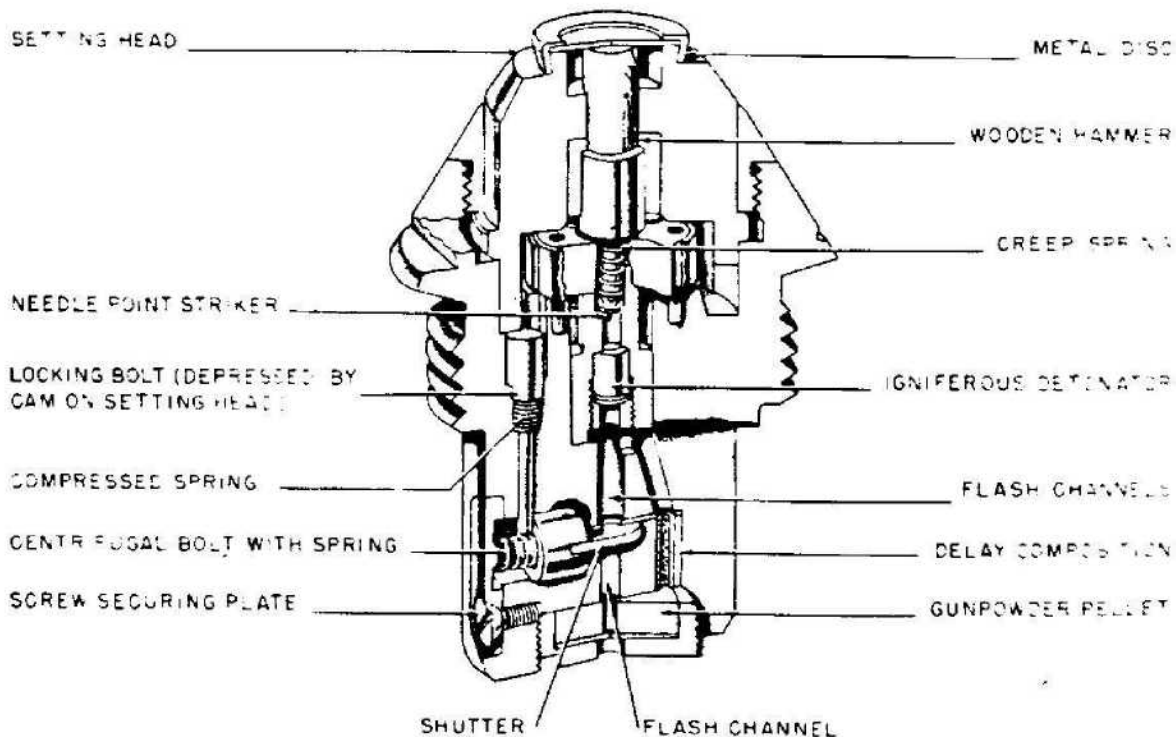

Figure 578—A. Z. 23 umg
**CONSTRUCTION:** The A. Z. umg 0.15 has the usual combined D. A. and graze mechanism consisting of a steel graze pellet carrying the detonator and an aluminum striker pellet held apart by a creep spring and five brass centrifugal segments encircled by an expanding spring ring. (See fig. 578.) The graze pellet is contained in a central recess in the body which has two flash channels at the base. One channel leads direct to the magazine through an open channel in the delay holder, the other leads to the magazine through the delay composition in the delay holder. The striker pellet with a steel sleeve surrounding it and a wooden hammer above it is carried in the head of the fuze. The steel head is retained in